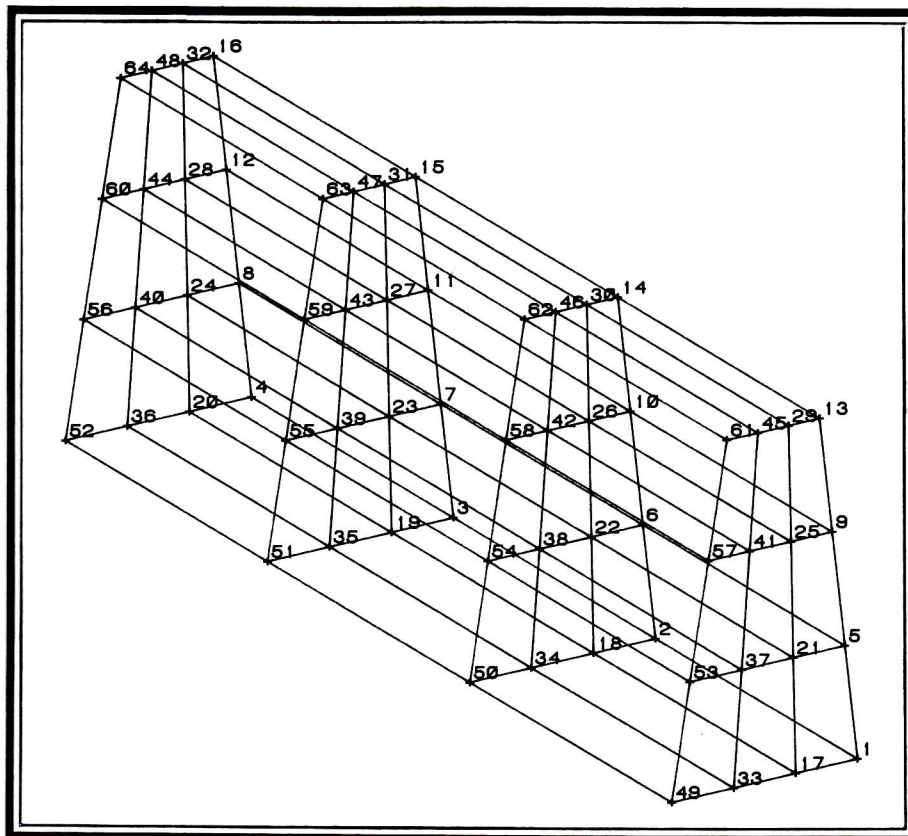

Figure 7 — Earth Dam
H) The 3-D Elastic Element: used to represent a structure which is thick and whose motion is basically three-dimensional. These structures could be dams, thick three-dimensional shells, valves, thick pipes, and other massive structures. An example of the 3-D elasticity element is shown in Figure 7. The model represents an earth dam and is composed of eight node elements.